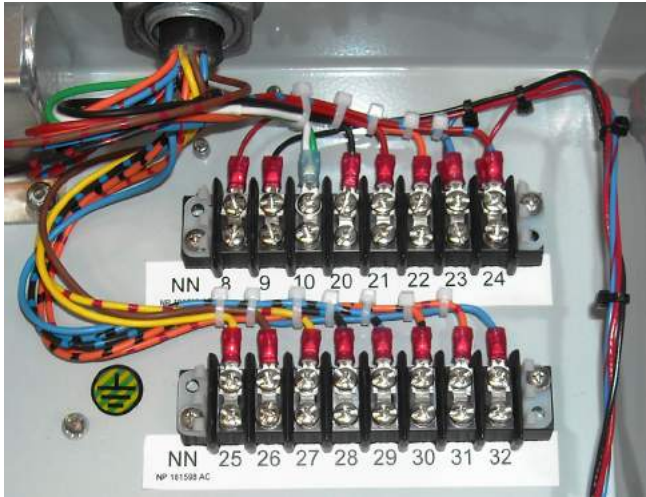

Figure 32. General Electric terminal board NN
13. Install the fork-terminal connectors into the existing NN terminal blocks (**Figure 32** and **Table 5**).